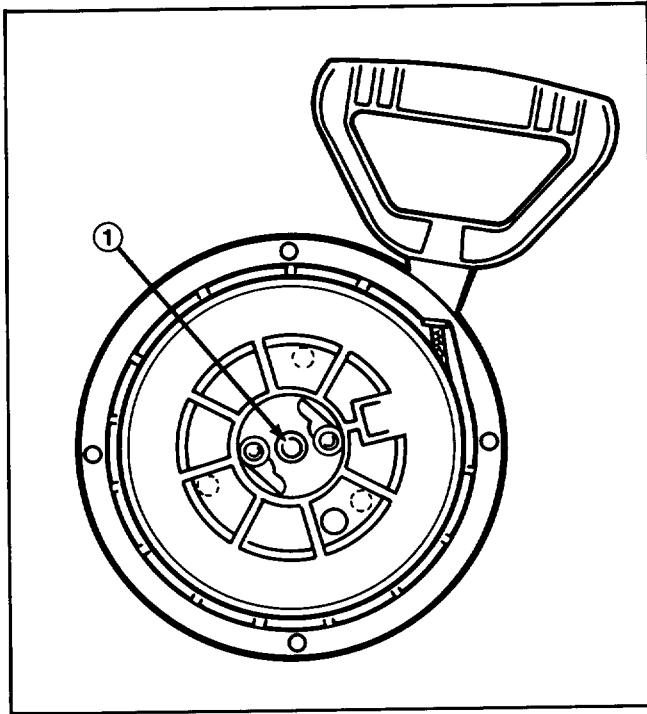

Figure 3
- b. Using center hole in pulley assembly as a guide (Fig. 3), drill a 1/4" dia. hole through housing.